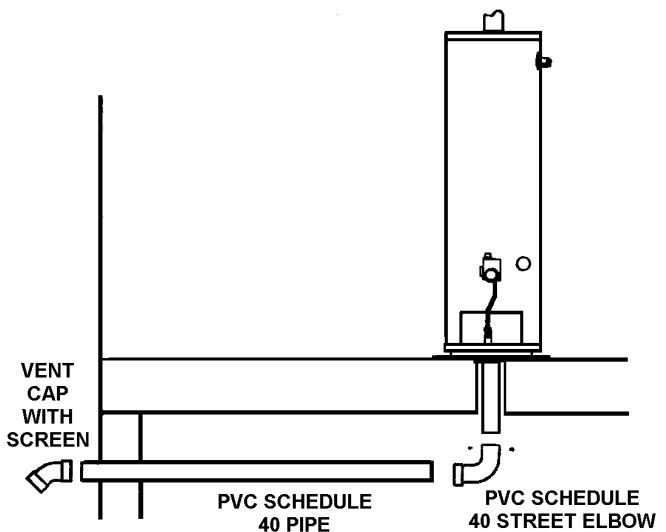

FIGURE 20.
4. Attach a 3" or 4" PVC street elbow to the metal air intake vent using 3 sheet screws. Continue PVC piping to outside wall and terminate with vent cap and screen, see Figure 20.